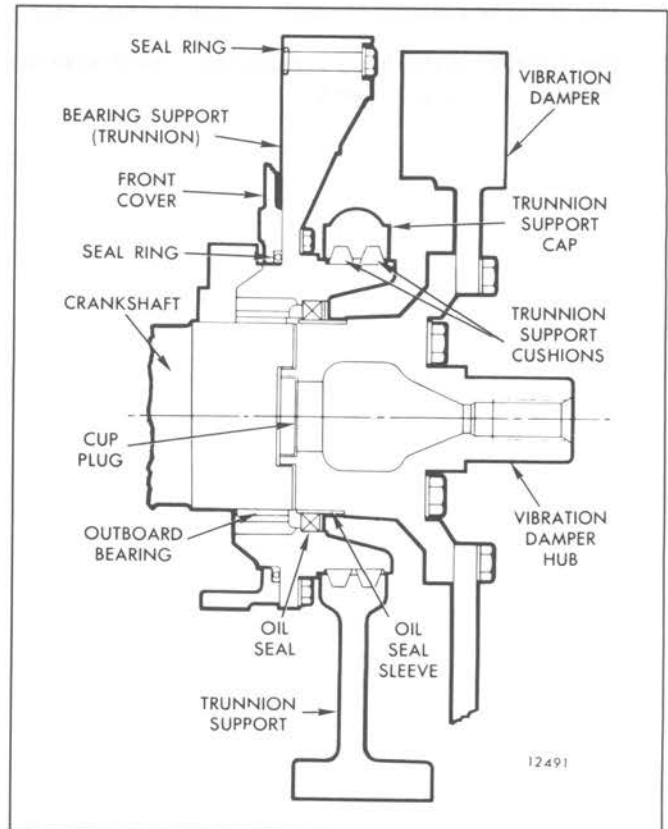
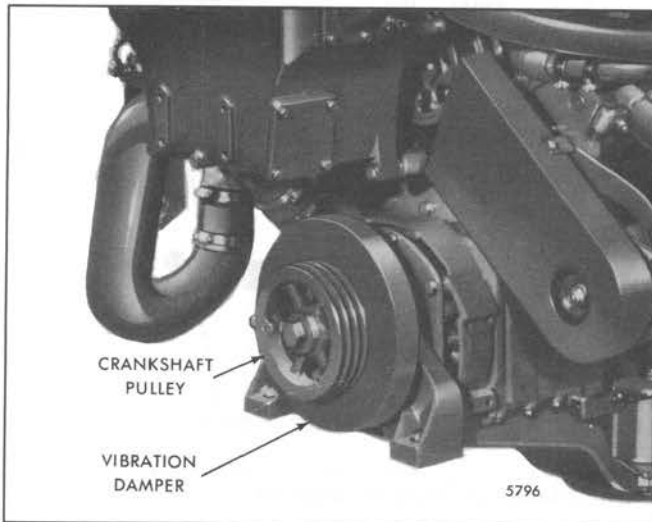

Fig. 2 - Outboard Bearing Support (Trunnion) Details
Fig. 1 – Vibration Damper Mounting (8V Engine)
1. Remove the trunnion (engine) support (Fig. 2).
1. Install a new large seal ("O" ring) and six new small seal rings on the back side of the bearing support (trunnion) - Fig. 2.
3. Snug the top two (2) middle inboard and bottom two (2) middle bolts. Using a softfaced mallet, strike the trunnion firmly on the top center of the housing driving the trunnion in a downward direction.
6. Install the bearing support-to-cylinder block oil line. Be sure the line is clean and free of obstructions. Fill the drilled feed hole in the support (Fig. 1) with clean engine oil before connecting the line.
A 12 inch (8V engine), a 13 1/2 inch (12V engine) or an 18 inch, formally 15 inch, (16V engine) viscous type vibration damper is mounted on the front end of the crankshaft to reduce crankshaft stresses to a safe value (Fig. 1). The vibration damper is bolted to a hub which is retained on the front end of the crankshaft.